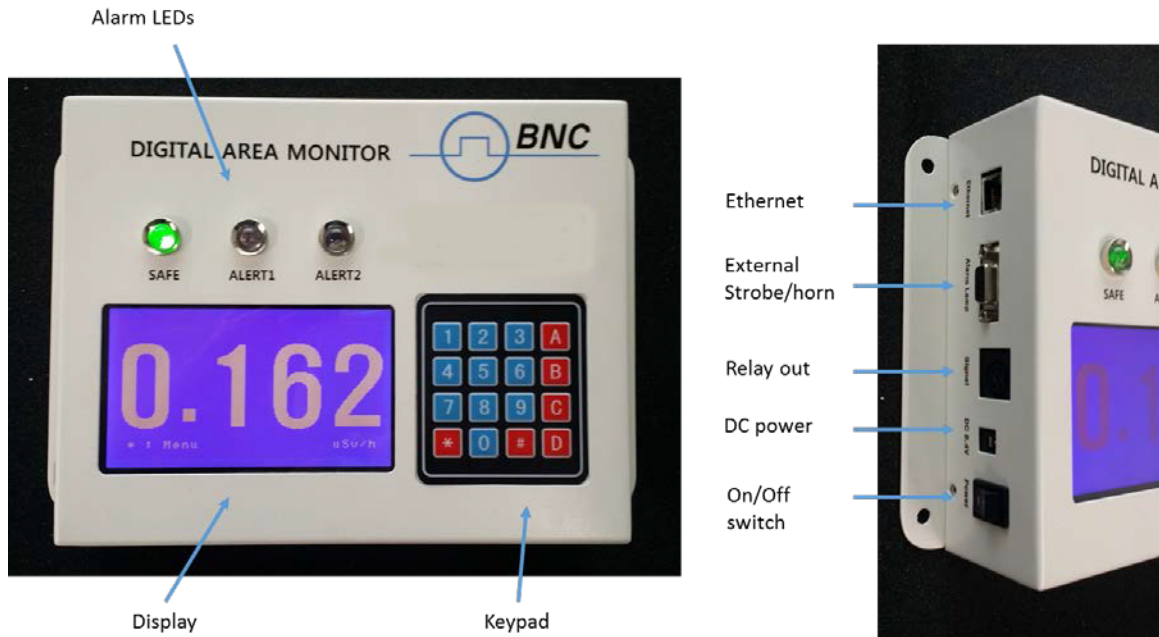

Figure 4. BNC™ MODEL 960 label
**BNC™ MODEL 960** is pre-configured and fully tested at the factory before being shipped. Therefore, it is ready to operate by simply connecting the power and turn the switch on. Figure 4 shows location of ports, keypad, display and alarm LEDs.